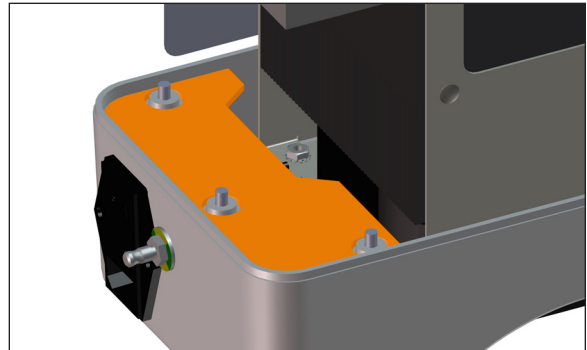

Figure 152 - Step 6 Place plastic shield in position
6. Place the plastic shield in position (Figure 152).